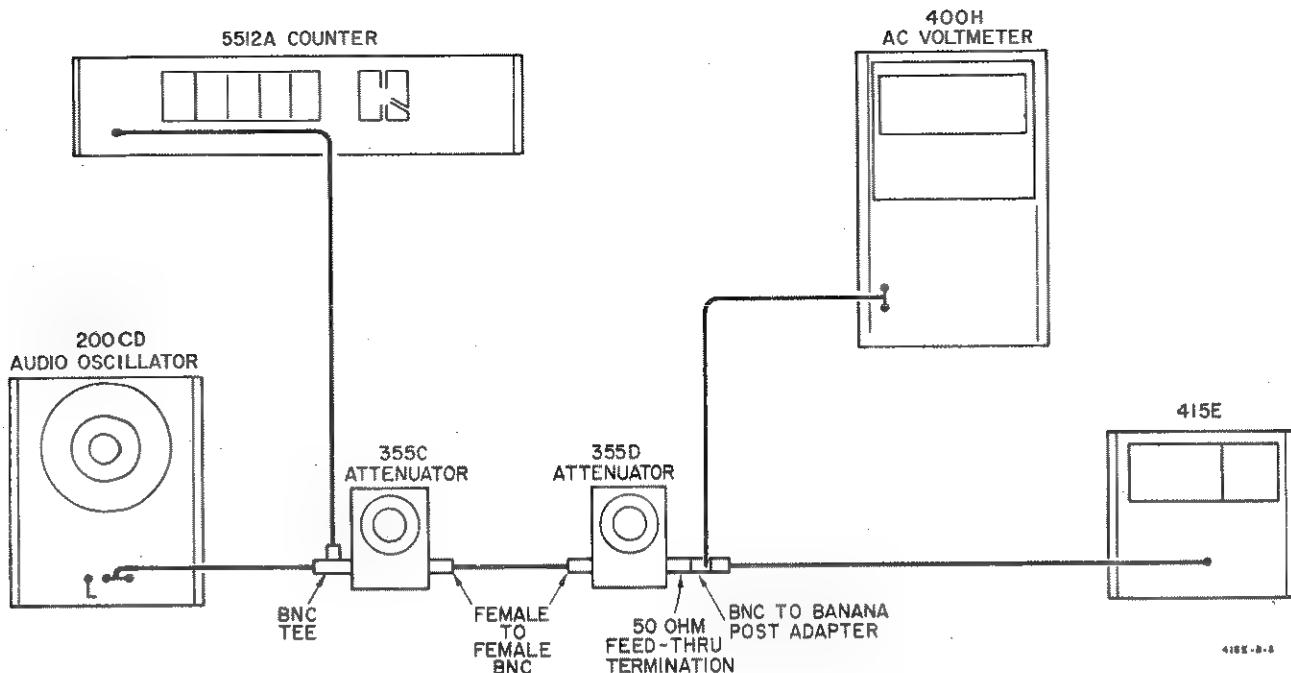

Figure 5-1. Test Set Up
a. Connect equipment as shown in Figure 5-1 (omit 355D and AC Voltmeter).	Act - Act = Difference (< 15 cps) 966 - 953 = 13